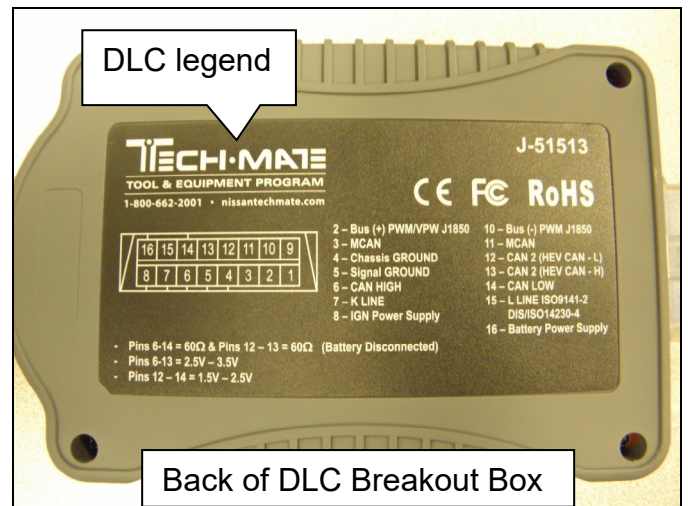

Figure 2
- Figure 2 shows the back of the DLC Breakout Box, and has a legend of the DLC pins.